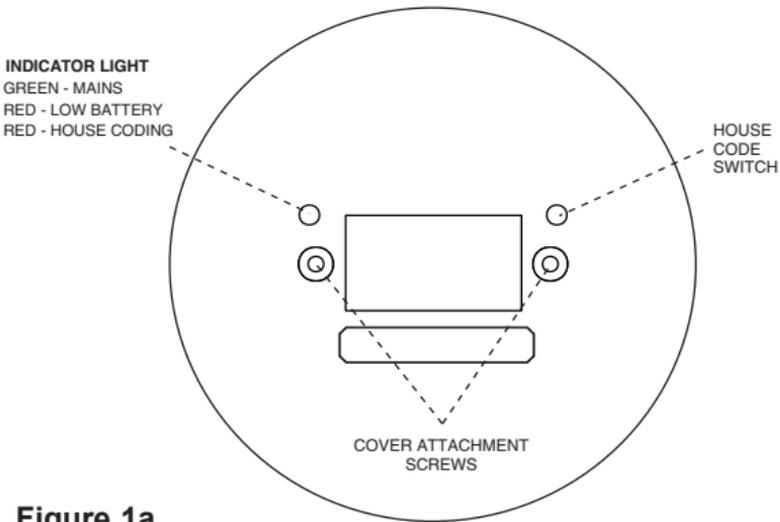

Figure 1a
10. Press and hold the House Code switch through the hole in the cover using a small screwdriver, see figure 1a, until the green light changes to red. Release the switch and the light will flash red quickly, a few times. The red light will then flash every 5 seconds.